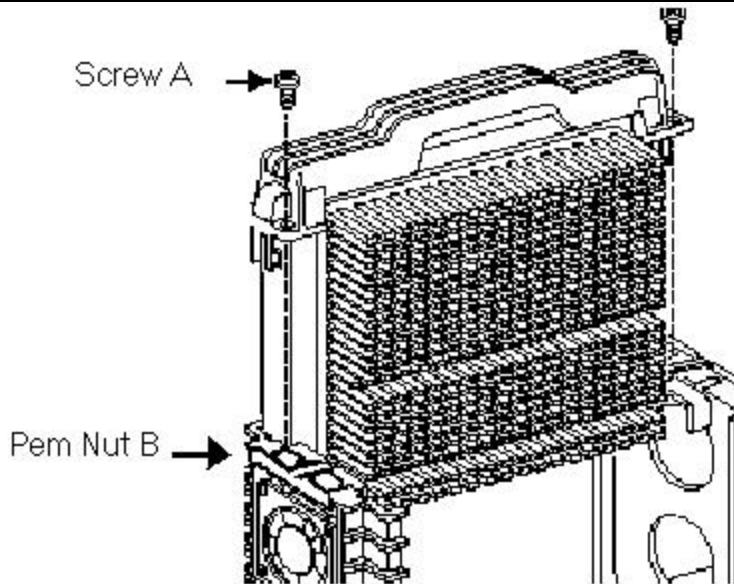

Figure 1. Dual Retention Module
A few Dual Retention Module (DRM) kit bracket 6X32 ½ screws (A) will not fully turn into the bracket clip with PEM nuts (B) on the retaining bracket as shown in Figure 1 on page 2. Depending upon the torque used, the 6x32 screws may install about two thirds of their length before binding (cross threaded) in the clip's metric PEM nuts. This can be easily determined by attempting to turn the captive washers located under the head of the screws. If the captive washers under the screw heads turn easily with your fingers, the screws are not fully seated. An easy way to test if the PEM nuts are metric is to thread the screws in by hand. They should install very easily for their complete length if correct 6X32 PEM nuts are present. The screws will bind very quickly, at less than 2/3 of their length, if the metric PEM nuts are encountered.